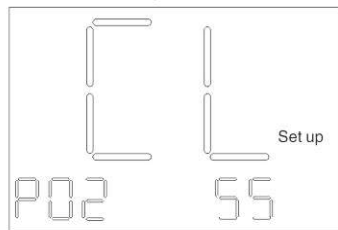

figure 6
3. Close direction (default: clockwise)The display interface in the direction of closure is shown in Figure 6:"CL" is displayed in the half of the screen, and internal control parameters are displayed in the lower left corner. The label "P02"; the lower right corner shows "sS" (clockwise Pinyin). Abbreviations) and "nS" (anti-clockwise Pinyin abbreviation). At this point, the "sS" and "nS" are performed by the up and down keys of the remote control. "NS" switch, after modification, press the setting key of the remote control to confirm.